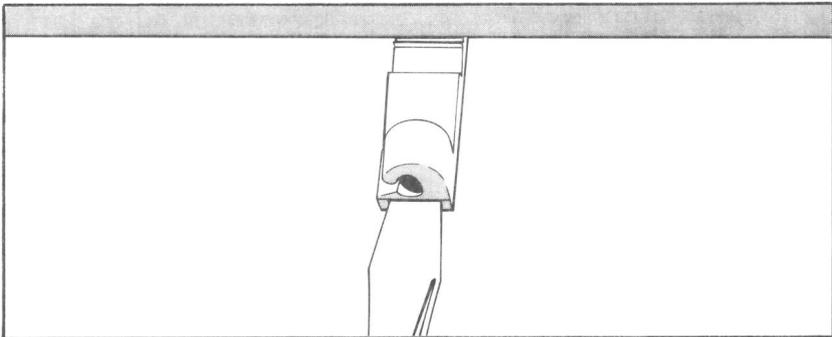

FIGURE 6. Installing the Vertical Clip
(1) Place the tapered end of the clip in the horizontal joint of the siding.
(2) Hold the clip in place with the 4-inch screwdriver by placing the blade in the notch in the bottom of the clip provided for this purpose. See Figure 6.
(3) While holding the screwdriver with one hand, bump the end of the handle with the heel of the other hand.